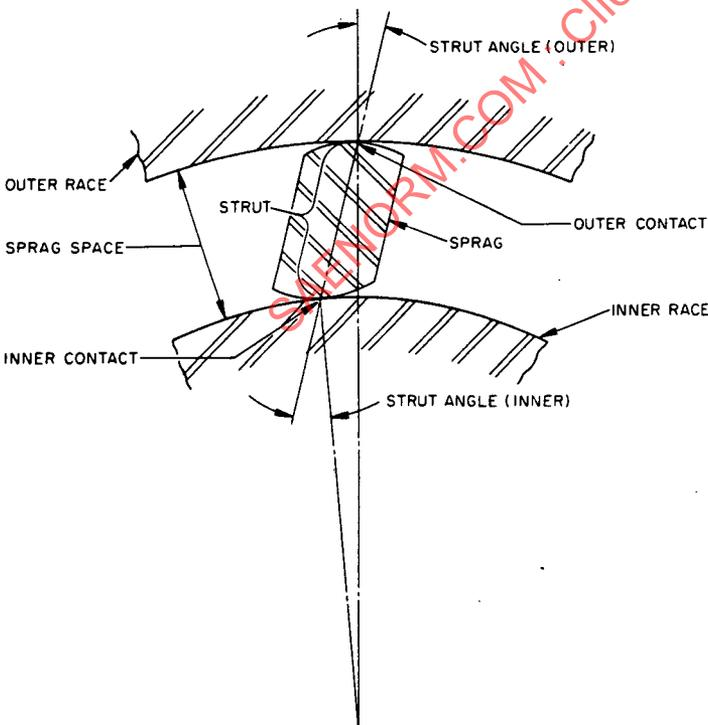

FIG. 5—SPRAG ONE-WAY CLUTCH DIAGRAM
4.3.1 **OUTER RACE**—That element which provides the outer cylindrical surface through which the sprags transmit torque. (See Figs. 5–8.)
4.3.2 **INNER RACE**—That element which provides the inner cylindrical surface through which the sprags transmit torque. (See Fig. 5.)
4.3.3 **SPRAG**—The cam profiled locking element of the clutch. Several are usually used in each clutch. (See Figs. 5–8.)
4.4.1 **SPRAG SPACE**—The radial distance between the inner and outer race cylindrical surfaces. (See Fig. 5.)